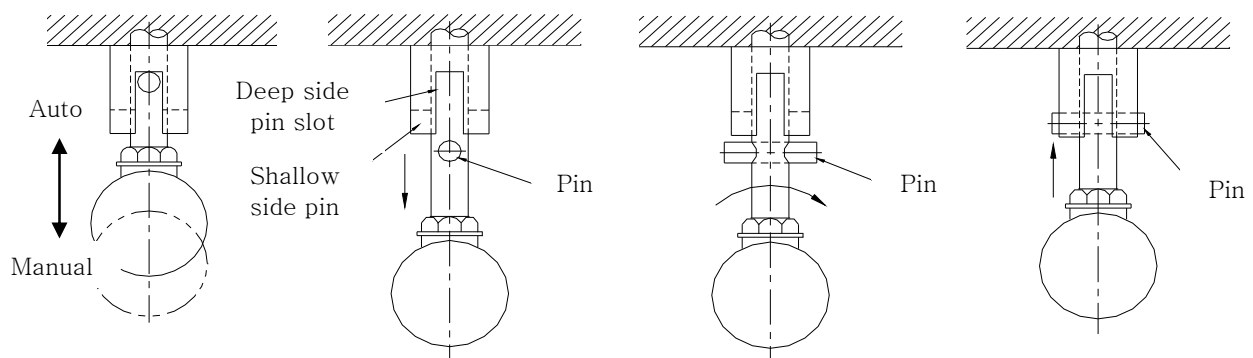

Fig.6 : How to convert auto to manual
(5) Manual Operation Mechanism
- When ⑳ auto-manual toggle switch change into manual direction, manual operation is possible.
- As figure 6, after ㉑ auto-manual toggle switch change into manual direction, rotate about 90degree and that pin shall be inserted into pin slot of shallow direction.
- And then as fig.6, process acting should be reverse, ㉔ auto-manual toggle switch must be inserted in auto arrow direction as fig.6 together pin.
(6) Instruction device